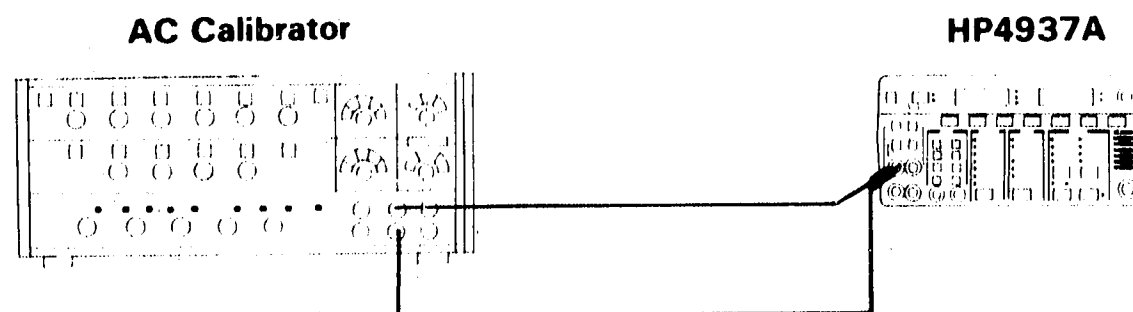

Figure 4-7. Hold Tone Dropout Detector Test
1. Connect equipment as shown in figure 4-7.